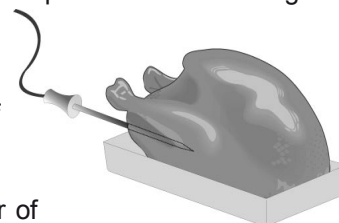

Figure 1
3. For whole poultry (chicken, turkey, etc.), insert the probe into the thickest part of the inner thigh from below and parallel to the leg (see figure 1).